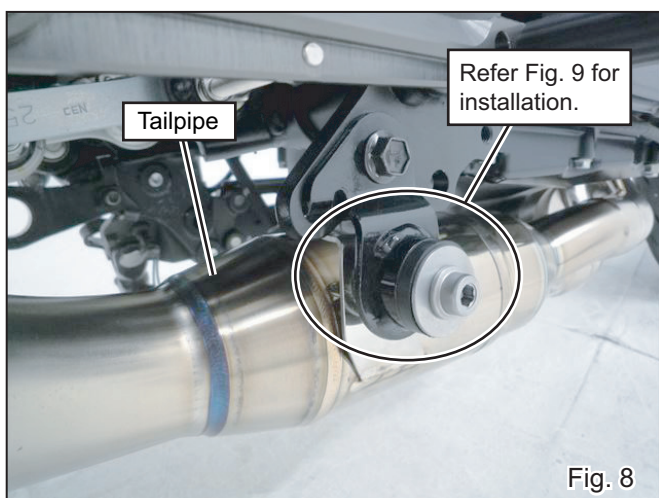

Fig. 8
- 7) Align the Tailpipe Bracket with vehicle's stock exhaust mount bracket and fix it using Stock bolt, Washer M8x26 and U Nut M8 (See Fig. 8, 9). Tighten bolt only by hand at this stage.